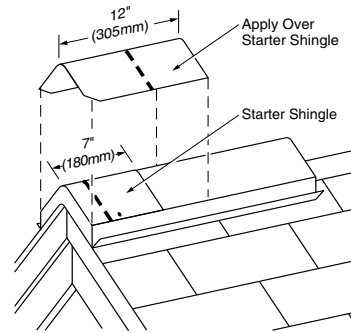

Figure 13-17: Apply a full cap shingle over the starter piece, flush with the bottom and side edges of the starter.
3. Apply a full cap shingle over the starter (Figure 13-17), and place fasteners at 5⁵/₈" up from the exposed bottom edge and 1" in from each side. Nails must not be exposed and must not cut into the shingle surface.
2. Install caps beginning at the bottom of a hip or at either end of a ridge. Apply a starter piece that has the bottom 5" removed (Figure 13-17). Fasten the starter with two nails located about 3" from the rake edge, and 1" in from each side edge. Make sure fasteners used to apply caps are of sufficient length to penetrate at least ³/₄" into or through the decking.